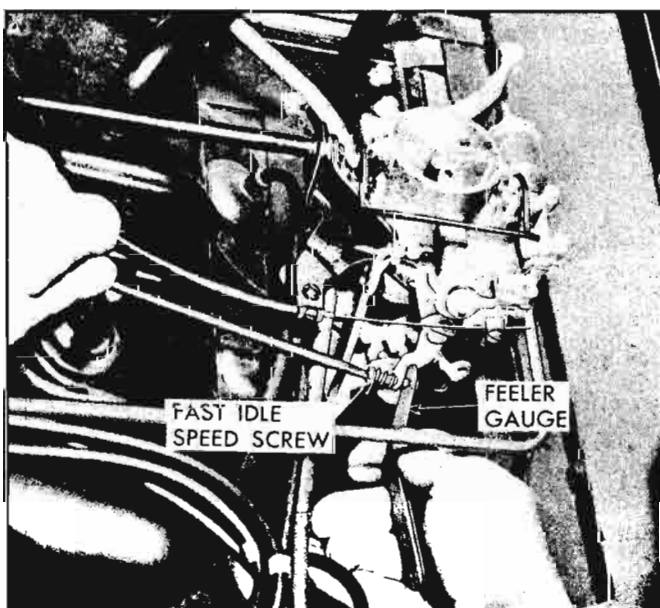

Fig. 9-10—Fast Idle Speed Screw Adjustment
- c. **Fast Idle**—(choke fully open)—Place a feeler gauge (.010" on automatic and .030" on synchromesh transmission) between fast idle speed screw and pad (tang) on throttle lever (fig. 9-10) and adjust the screw until it contacts (or holds) the gauge.